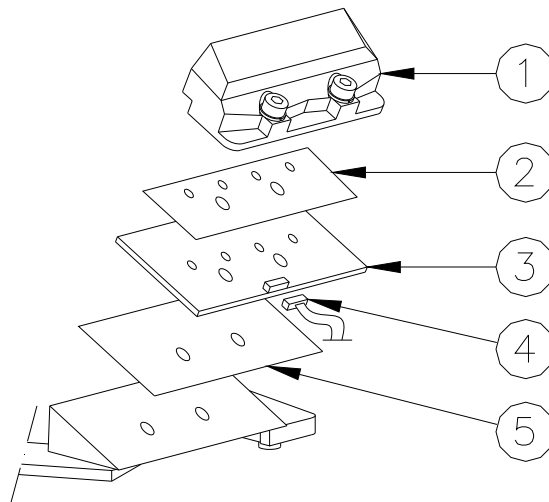

Figure 21 – LED Module Replacement
- disconnect the power supply connector from the LED module (Figure 21 – n°4)
- remove the LED module (Figure 21 – n°3) and the reflector (Figure 21 – n°1) from the mounting plate by unscrewing the two HSCS M3x12 screws
- check that the thermal interface (Figure 21 – n°5) is placed under the LED module and right-positioned
- check that the Kapton insulating sheet (Figure 21 – n°2) is placed over the LED board is lying down and in the right-position
- reconnect the power supply connector (Figure 21 – n°4) to the LED module